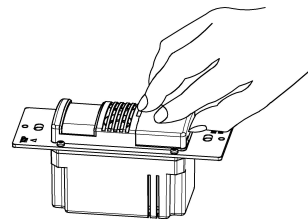

Figure 3
6. Remove the small cover plate. (illustrated as Figure 3.)
7. Locate the adjustment trimpots on the control panel to perform test and adjustment.(illustrated as Figure 3 and 4.)